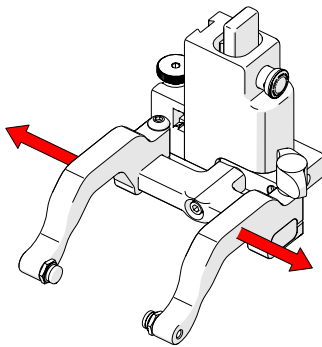

Fig. 50 - Remove probe holder arms
1. Loosen the arm clamp screw and the probe holder adjustment knob allowing the removal of the probe holder arms (Fig. 50).